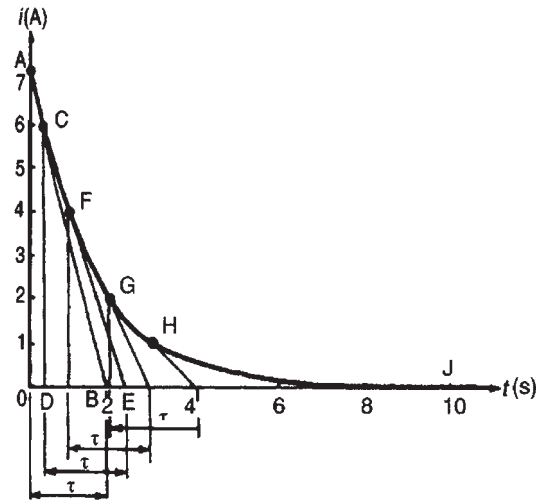

Figure 18.14
- With reference to Fig. 18.14, the initial slope is obtained by making OB equal to 1 time constant, (i.e. 2 s), and joining AB